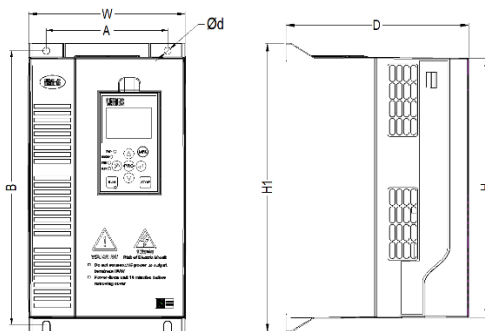

Fig. 8-2 Dimensions diagram
- Length unit: (mm); Weight unit: (KG)
■ Fig. 8-2 is the diagram, the detail feature for all drive is different.